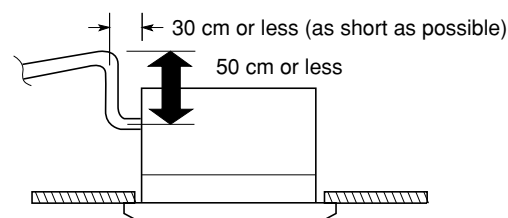

Fig. 3-44
- If it is necessary to increase the height of the drain pipe, the section directly after the connection port can be raised a maximum of 50 cm. Do not raise it any higher than 50 cm, as this could result in water leaks. (Fig. 3-44)